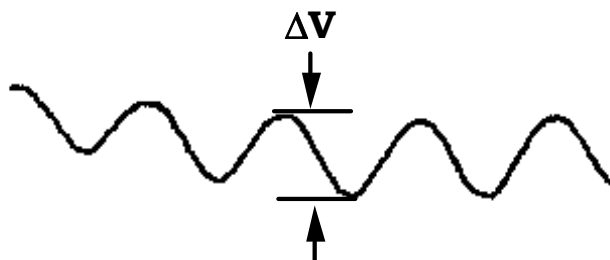

Figure 3-8 A typical Mr. SQUID[®] $V-\Phi$ characteristic. The maximum ΔV may range from 10 to 30 μV or higher.
To automate this procedure, switch the function switch (1) from $V-I$ to $V-\Phi$. In this new mode, all of the controls on the Mr. SQUID[®] control box work the same way as before, except for the amplitude control (4). Instead of controlling the sweep of the drive current through the SQUID, it now controls the amplitude of the current through the modulation coil, which is linearly related to the magnetic field applied to the SQUID. To view as many $V-\Phi$ periods as possible, turn the amplitude control (4) in the clockwise direction. Depending on the particular SQUID and coil in your probe, you should be able to see at least four or five periods of oscillation, as shown in Figure 3-8.
In addition, it may be necessary to use the position knob on your output device to center the curve. If your oscilloscope can be operated in an AC-coupled mode on the vertical channel, you can use this mode for more convenient viewing of the $V-\Phi$ curve (never use the AC mode to look at the $V-I$ curve, or it will be completely distorted on the oscilloscope screen.) You should see a curve that resembles the one shown in Figure 3-8. Depending on the particular device and on the settings on the control box, you may see many more periods than shown here. At this point, you can try to maximize the signal by fine-tuning the current bias control (3) to the most sensitive part of the $V-I$ curve (just keep your eye on the $V-\Phi$ curve as you "tweak" the current bias control until you get the maximum modulation). There will be some setting of the current bias control that gives the largest modulation amplitude.